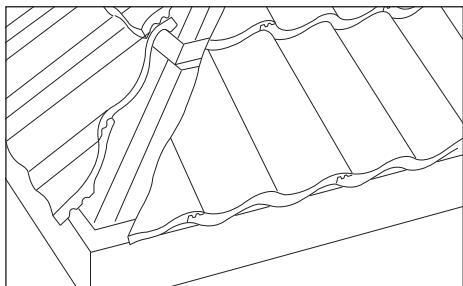

Fig. 1
- 3 Mark and cut tiles accurately, abutting either side of hip rafter in a straight line, to form a gap of 110mm width (Fig. 1). Ensure all raking cut tiles and slates are fully supported on the battens and if not, provide suitable packers to prevent tiles from rocking.